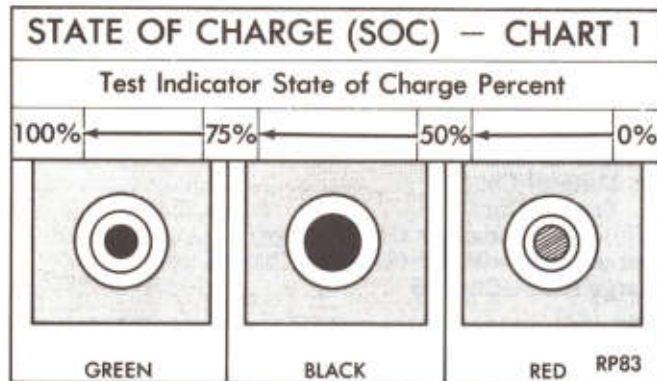

Fig. 5—Test Indicator (Built-in Hydrometer)
(1) **Green dot (Fig. 5 State of Charge—Chart 1)**
(2) **A Dark or black dot (Fig. 5 State of Charge—Chart 1)**
(3) **Red Dot (Fig. 5 State of Charge—Chart 1)**
(1) Observe indicator for presence of green dot (Fig. 5). If not visible, charge battery prior to testing.